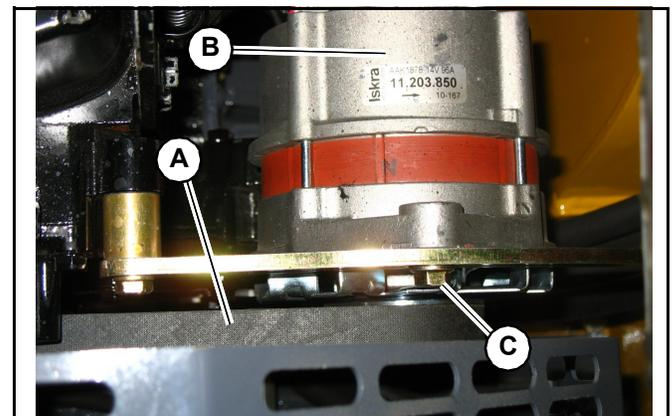

Fig. 137 – Belt
4. Inspect belt (A, Fig. 137) for damage. If damaged, have belts replaced by an authorized repair shop.